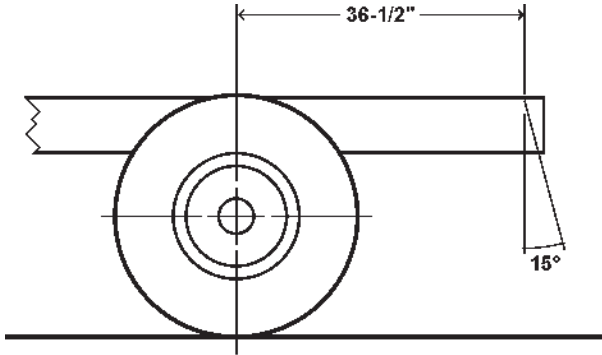

FIGURE 7.2
- (b) On vehicle leg of frame rails, scribe a 15° line from the 36-1/2" mark. See Figure 7.2.
- (c) Cut frame rails according to measurements obtained in steps (a) and (b). Refer to Figure 7.2.